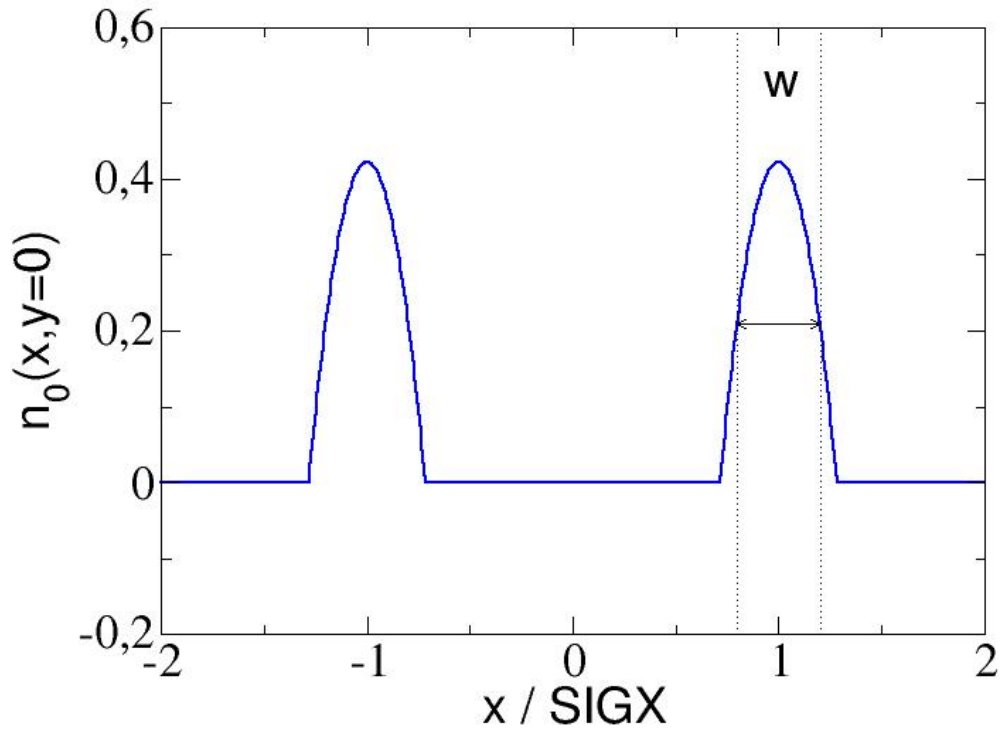

Figure 10.3: Hollow parabolic shape of radial density for beam-beam lens.
- BBSHAPE=3: hollow-parabolic shape (see fig.10.3). SIGX, SIGY are the distances from the centre to the maximum of the parabolic density profile in horizontal and vertical directions. Only circular opposite beam is possible, *i.e.* in the calculations $SIGX' = SIGY' = (SIGX+SIGY)/2$ is used, if SIGX and SIGY have different values. WIDTH denotes the full width at half maximum of the parabolic density profile in units of SIGX, or SIGX' and SIGY', respectively, if SIGX and SIGY are not equal. Condition: WIDTH < SQRT(2.0)